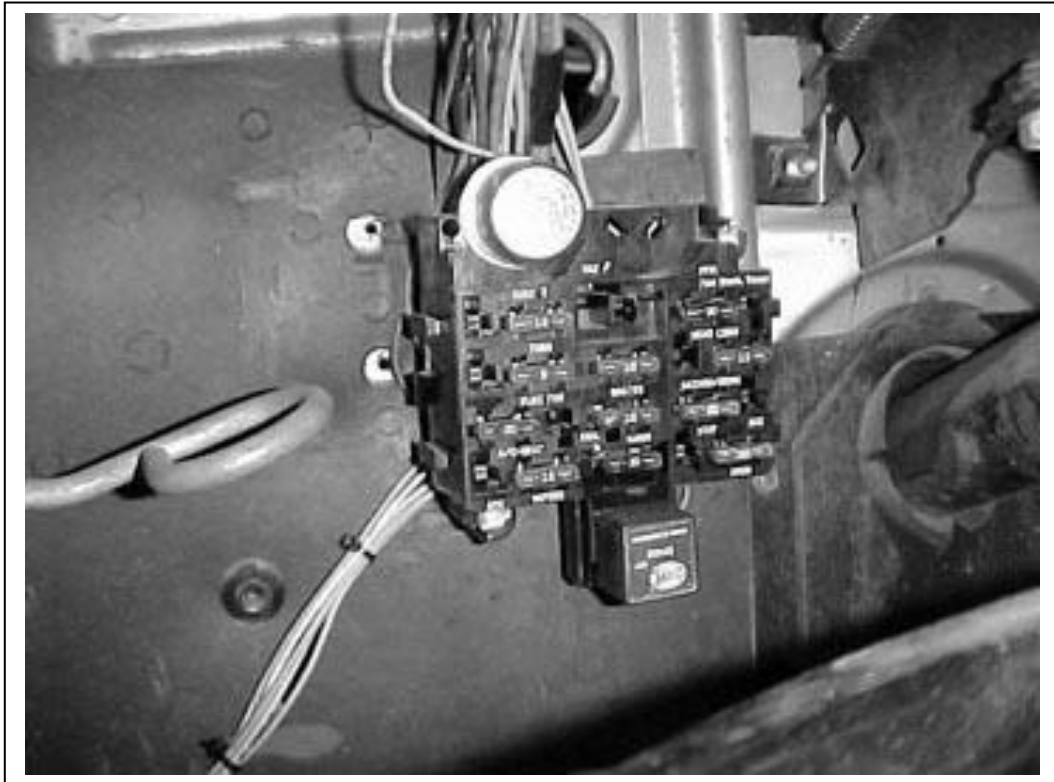

Figure 6.1 Fuse Block - mounted
- 6.1.1** Position the fuse block in its original mounting area. Making sure that you are clear of the vent handle. **See Figure 6.1.** See **Illustration 1**, template for proper drilling of mounting holes.